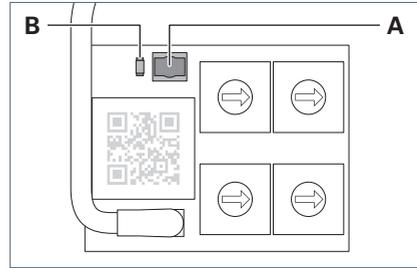

Fig. 14: Key and LED.
- ▶ Press the key **A** and keep it depressed for 20 seconds, see Fig. 14.